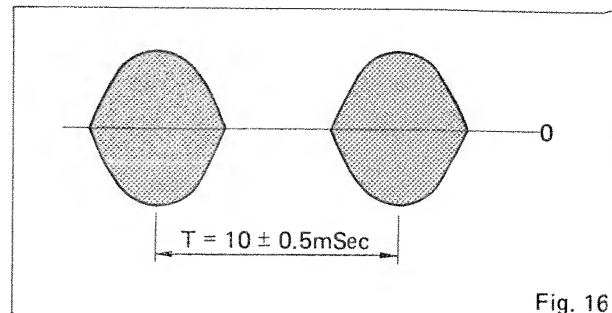
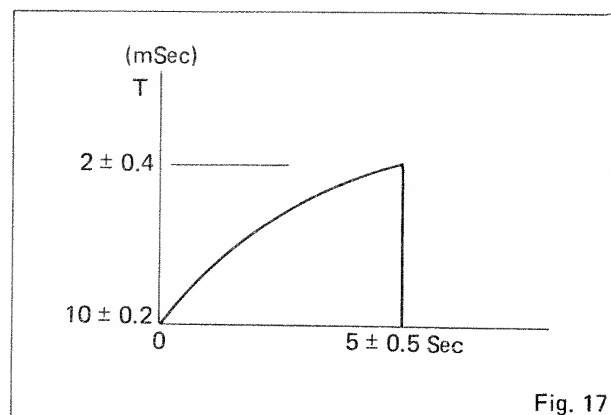

Fig. 16
Fig. 17
1. Set SPEED and MODULATION DEPTH switches to F and 10 respectively, with controls set to each specified position in item [3] panel setting. Waveforms shown in Figure 16 should be obtained when VCA is set to ON. After that, T should be $15 \pm 4\%$ smaller when FINE is set to +, and when set to -, T should be larger than $15 \pm 4\%$.
2. Set SPEED switch to F with controls set to each specified position in item D-1. In addition, set EG DEPTH and ATTACK TIME switches to 10 and L, respectively, so that T in Figure 16 should become 2 ± 0.4 msec, and then, 10 ± 0.2 msec in 5 ± 0.5 seconds after the key is depressed (See Figure 17). Then, set ATTACK TIME and DECAY TIME switches to S and L, respectively. After the key is depressed, T should be $2 \text{ msec} \pm 0.4 \text{ msec}$ instantaneously, then it should gradually increase.